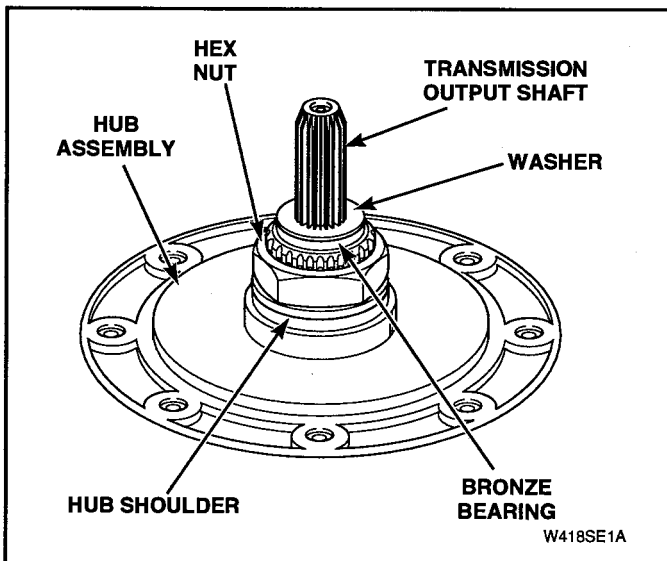

Figure 5-15
- k. Thoroughly clean all foreign material from seal mounting area of hub assembly, bronze bearing and washer. See Figure 5-15.